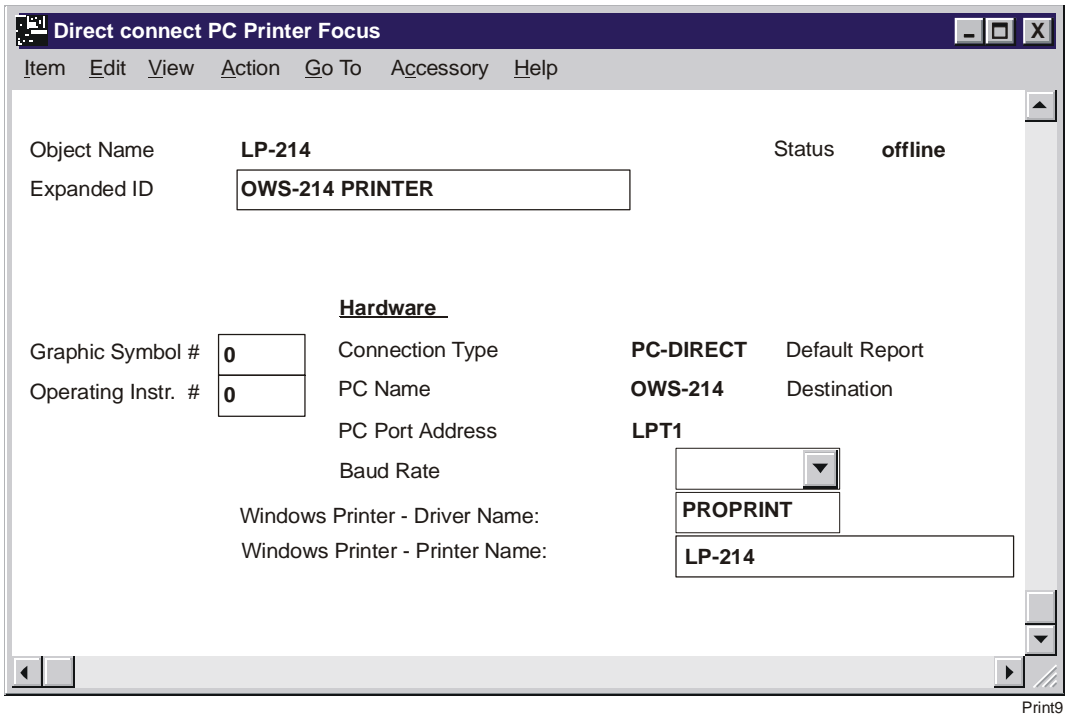

Figure 16: Example Metasys Focus Window
- 1. In the Metasys system Printer Focus window, set the Windows Printer Driver Name field to the printer driver obtained during Step 3 of this procedure. In Figure 16, the Windows Printer Driver Name has been set to PROPRINT.
2. In the Metasys system Printer Focus window, set the Windows Printer Name to the Windows Printer Name obtained during Step 3 in this procedure. Figure 16 shows the Windows Printer Name is LP-214.